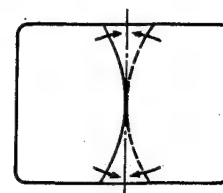

Fig. 34
9. Match the R, B of centre V line by R, B Bow control (white control on DY). (Fig. 34)